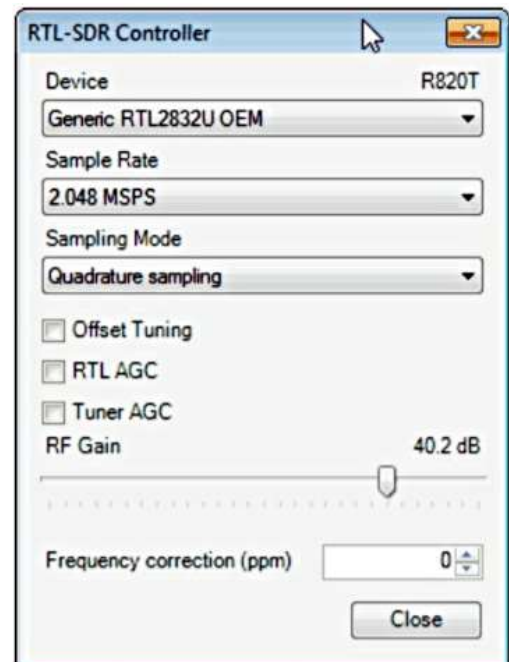

Figure 10 The SDR# configure menu. The RF Gain is circled
12. Click on the Configure button  (shaped like a gear) at the top of the SDR# window to bring up the configure menu (Figure 10). By default the RTL-SDR's gain is set to zero. Increase this gain by moving the RF Gain slider up. Gain is an amplification factor—it is increasing the strength of signal so that the software can detect it. Gain values of around 40 are commonly used. Alternatively, the AGC (automatic gain control) option can be enabled.